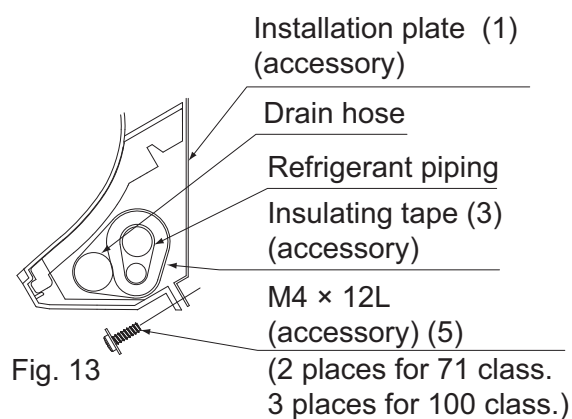

Fig. 13
- Secure the indoor unit to the installation plate (1) with the securing screws (5). (Refer to Fig. 13)